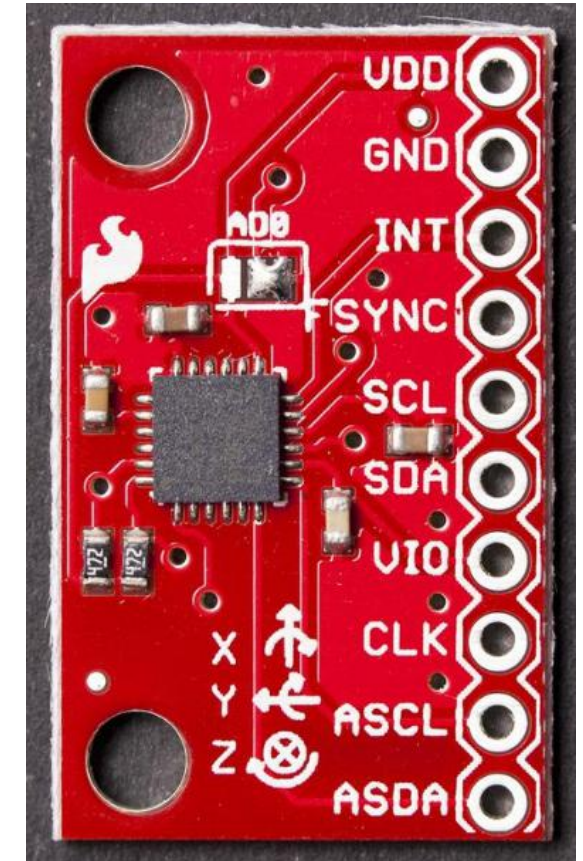

Figure 8-4. The MPU 6050
- The MPU 6050 (Figure 8-4) has an accelerometer, gyro, and microcontroller on the same chip.